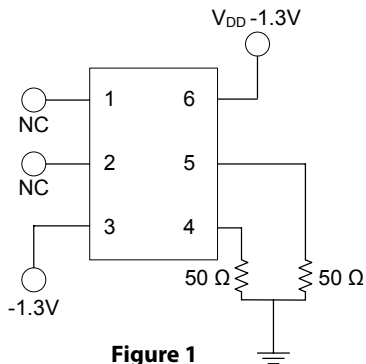
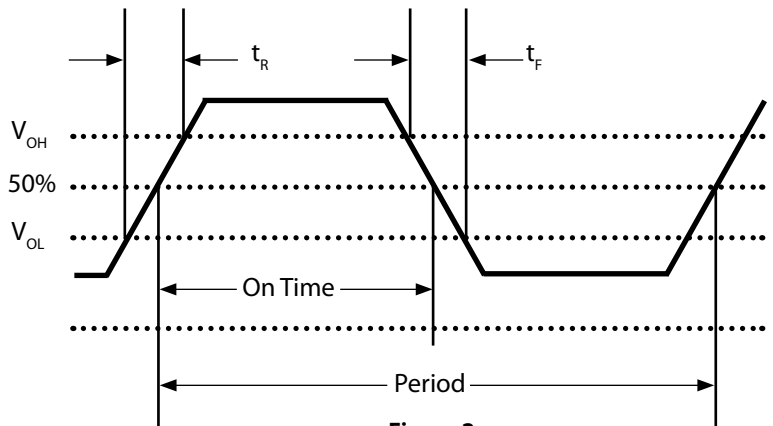
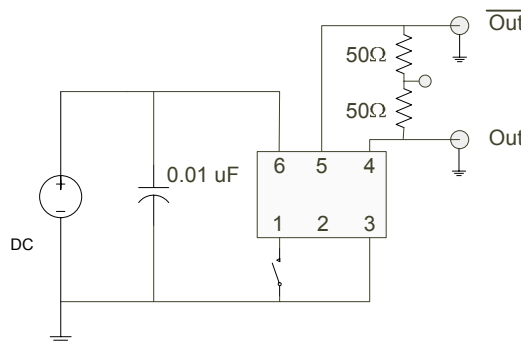

Figure 1
Figure 2
Figure 3
4. Figure 2 defines these parameters and Figure 1 defines the test circuit.
4. Figure 2 defines these parameters and Figure 3 defines the test circuit.